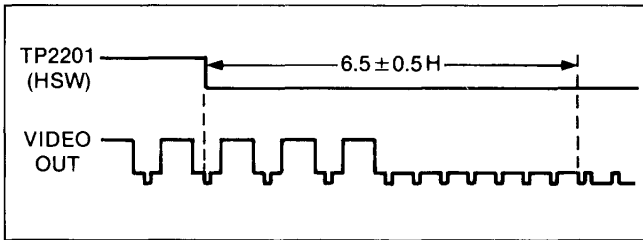

Figure E4
4. Adjust VR2203 for 6.5H +/- 0.5H as shown in Figure E4.